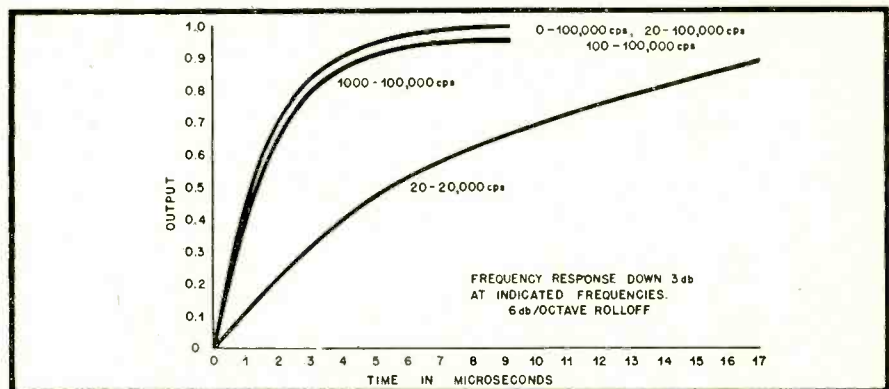

Fig. 6. Transient responses of typical amplifier stages.
For this illustration the numerical calculations have been carried out for five typical stages: (1) one with a response of 20–20,000 cps, (2) one with a response of 1000–100,000 cps, (3) one with a response of 100–100,000 cps, (4) one with a response of 20–100,000 cps, and (5) one with a response of 0–100,000 cps. The results are shown in Fig. 6. The manner in which the extended high-frequency response has improved the transient response is quite evident. The effect of extending the low-frequency response, however, is almost negligible, from which we might conclude that, so far as transient response is concerned, low frequencies are of little importance.